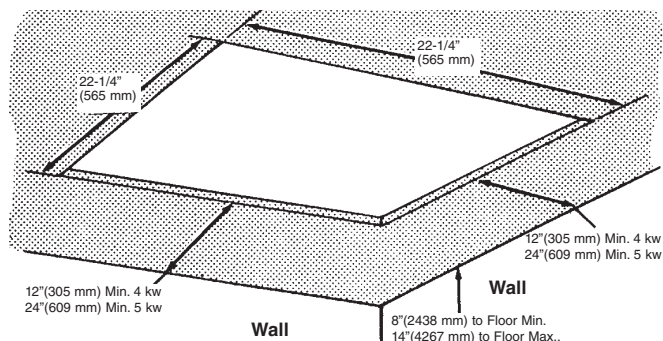

Figure 5
- Cut a 22-1/4” x 22-1/4” (565 mm x 565 mm) mounting hole in the ceiling for the recess mounting box (Figure 5).